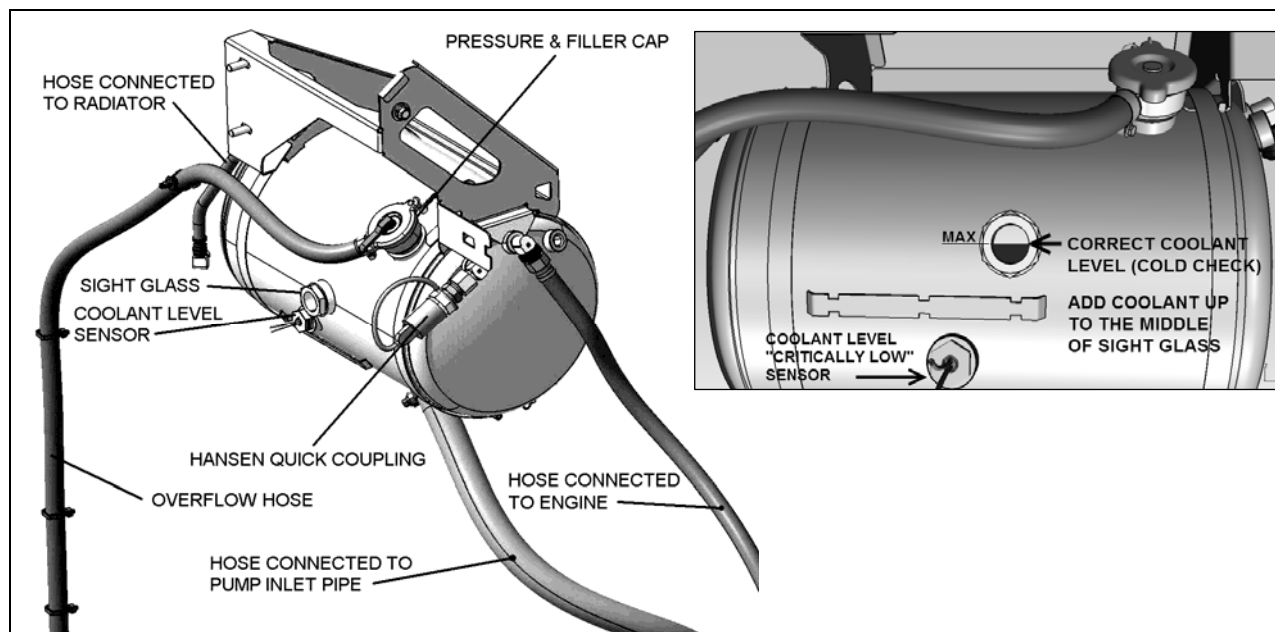

FIGURE 1: COOLANT SURGE TANK
The cooling system is filled through a pressure & filler cap on the surge tank (Fig. 1), the cap is also used to maintain pressure within the system. When system exceeds normal pressure rating (14 psi - 96.53 kPa), the cap releases air and if necessary, coolant through the overflow tube (Fig. 1). The thermostat is located in the housing bolted to the engine on the L.H. side.
- Pressurize system periodically using Hansen Quick Coupling (Fig. 1 & 2).
when cold coolant level is up to the middle of the surge tank sight glass (Fig. 1).